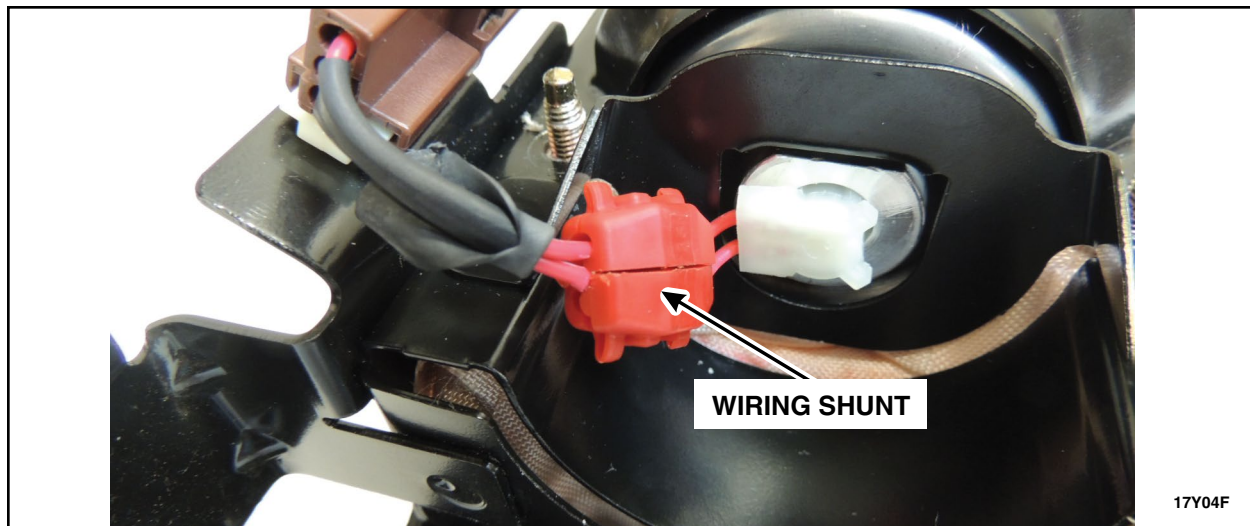

FIGURE 6
4. Install a wiring shunt between the inflator wiring connector and the inflator body, this will cause the inflator to become inert. See Figure 6.